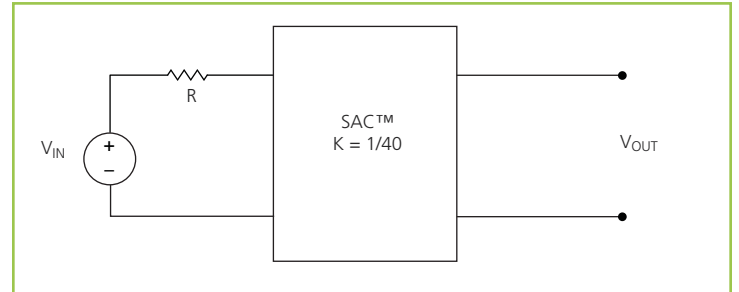

Figure 18 – $K = 1/40$ Sine Amplitude Converter with series input resistor
The use of DC voltage transformation provides additional interesting attributes. Assuming that $R_{OUT} = 0 \Omega$ and $I_Q = 0 A$, Eq. (3) now becomes Eq. (1) and is essentially load independent, resistor R is now placed in series with V_{IN} as shown in Figure 18.
Assuming that $R = 1 \Omega$, the effective R as seen from the secondary side is $0.63 m\Omega$, with $K = 1/40$ as shown in Figure 18.